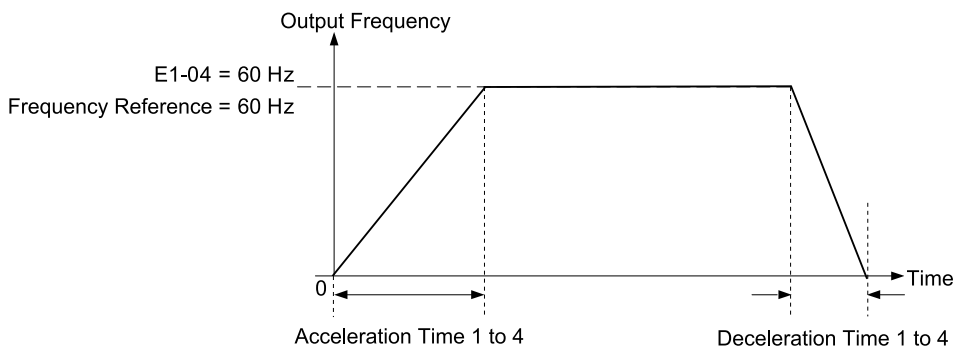
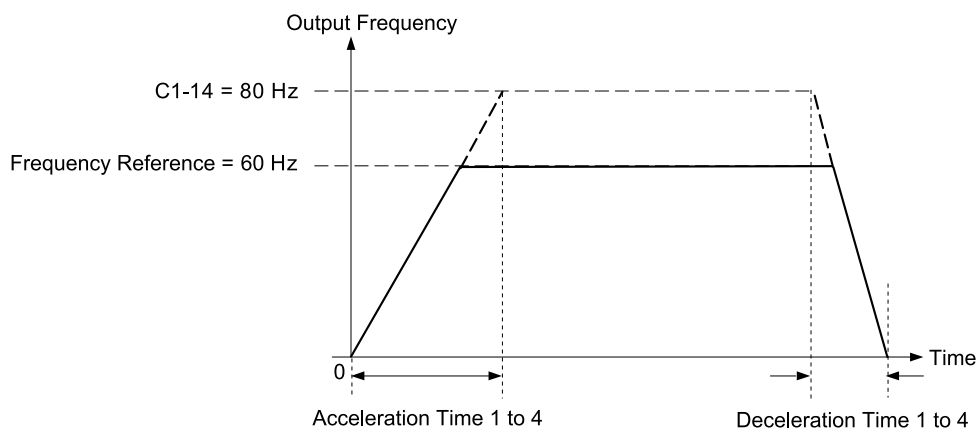

Figure 12.38 Example 1: Acceleration/Deceleration Rate (When C1-14 = 0 Hz, E1-04 = 60 Hz, and the Frequency Reference is 60 Hz)
Figure 12.40 Example 3: Acceleration/Deceleration Rate (When C1-14 = 80 Hz, E1-04 = 60 Hz, and the Frequency Reference is 60 Hz)
- Figure 12.38 to Figure 12.40 show the accel/decel times when C2-01 to C2-04 [S-Curve Times @ Start/End of Accel/Decel] = 0.00 s.